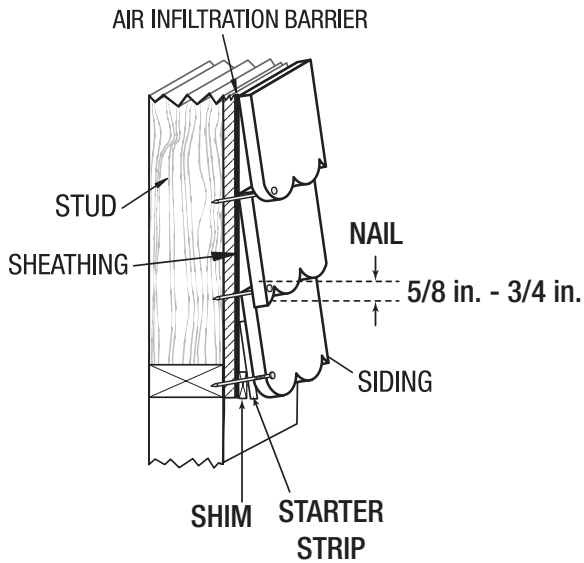

Figure 5
- Follow product specific nailing pattern (see Fig. 5).
- Starter strip should be 4-5 in. wide, 1/2 in. thick and installed to hang below shim approximately 1 in. (see Fig. 5). If desired, the starter strip can be cut from the top of the siding and the bottom portion used for the top course.
- Place nails 5/8 in. to 3/4 in. up from the drip edge. Make sure that drip edge nails penetrate both courses of siding and into studs (see Fig. 5).